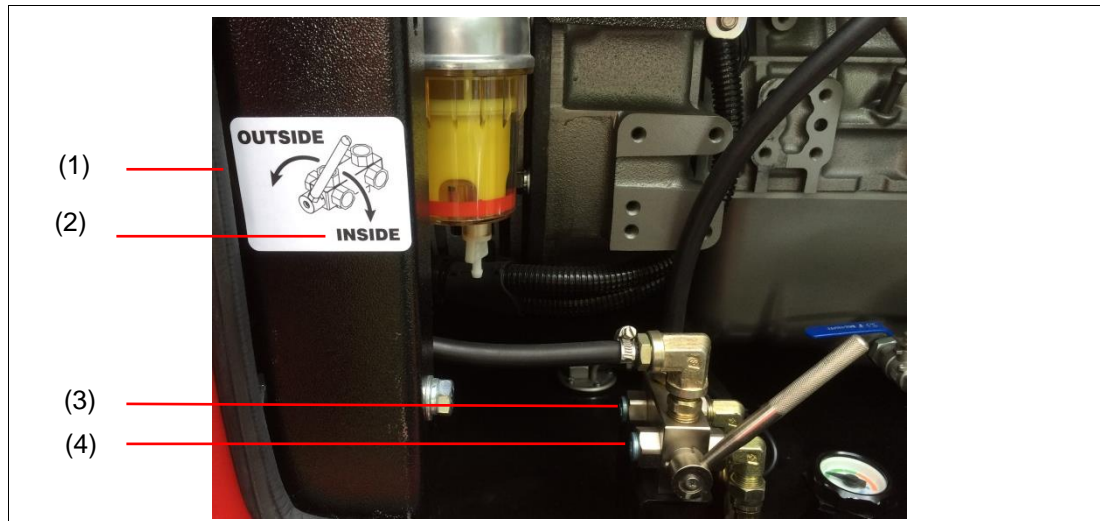

Fig. 9-1: Fuel cock / fuelling device
- Turn the fuel cock to the position OWN TANK (Fig. 9-1: Fuel cock / fuelling device)